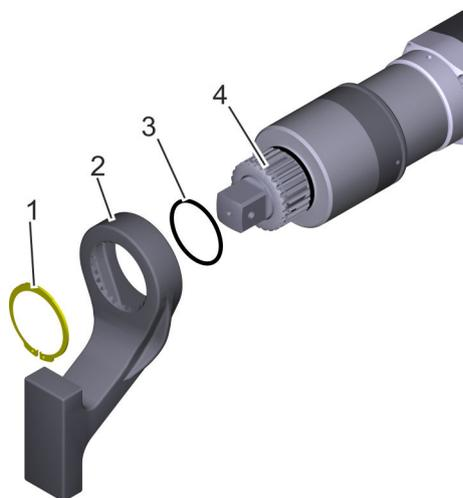

Fig. 13: Securing the reaction arm
Carefully slide the O-ring (Fig. 13/3) onto the serration (Fig. 13/4) on the nutrunner.
3. → Push the reaction arm (Fig. 13/2) onto the serration.
- 4.** → Slide on the circlip (Fig. 13/1) with the aid of the circlip pliers (Fig. 14) and clamp it.